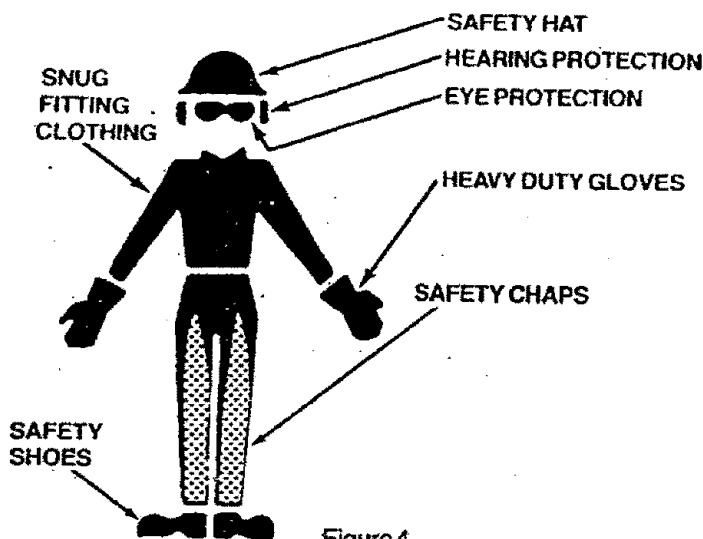

Figure 4
1. Wear personal protective gear. Figure 4. Always use steel-toed safety footwear with non-slip soles; snug-fitting clothing; heavy-duty non-slip gloves; eye protection such as non-fogging, vented goggles or face screen; an approved safety hard hat, and sound barriers — ear plugs or mufflers to protect your hearing. Regular users should have hearing checked regularly as chain saw noise can damage hearing.